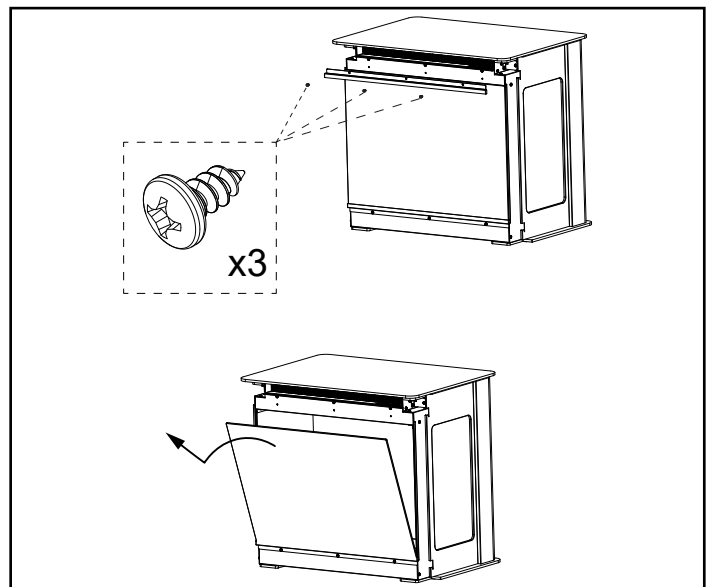

Figure 4.3 - Glass Removal
4. Remove the top glass bracket by removing three (3) Phillips screws. Lift the glass from the bottom channel. Retain and re-use the top and bottom rubber channel, Figure 4.3.
Refer to Figure 4.3 for Glass removal.
5. Install the glass onto the appliance. See Figure 4.3.